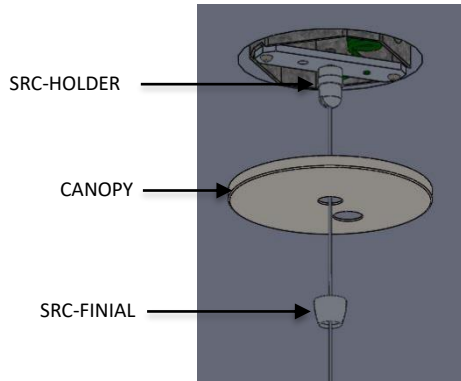

FIG. 17 – CANOPY DIS-ASSEMBLY
16. Once the TWIN BODY is secured to the AIRCRAFT CABLE (4) at the GRIPLOCK (4) Unthread the FINIAL from the MOUNTING BRACKET ASSEMBLY and lower the CANOPY as shown below in FIG. 17.